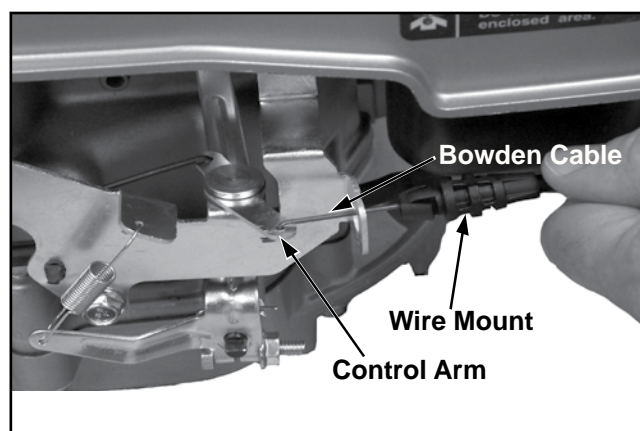

Figure 5-16. Connect Bowden Cable.
1. Connect the Bowden cable to the engine choke control arm on the speed control bracket. See Figure 5-16.
3. Snap the plastic wire mount into the speed control bracket. See Figure 5-16.